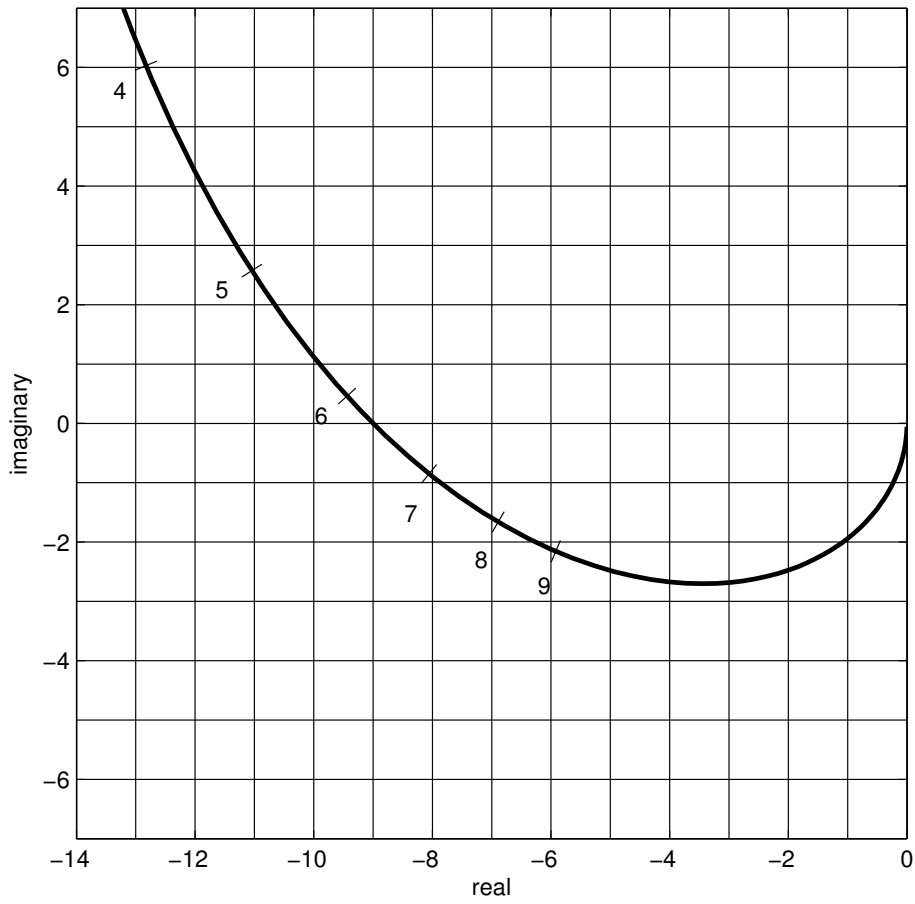
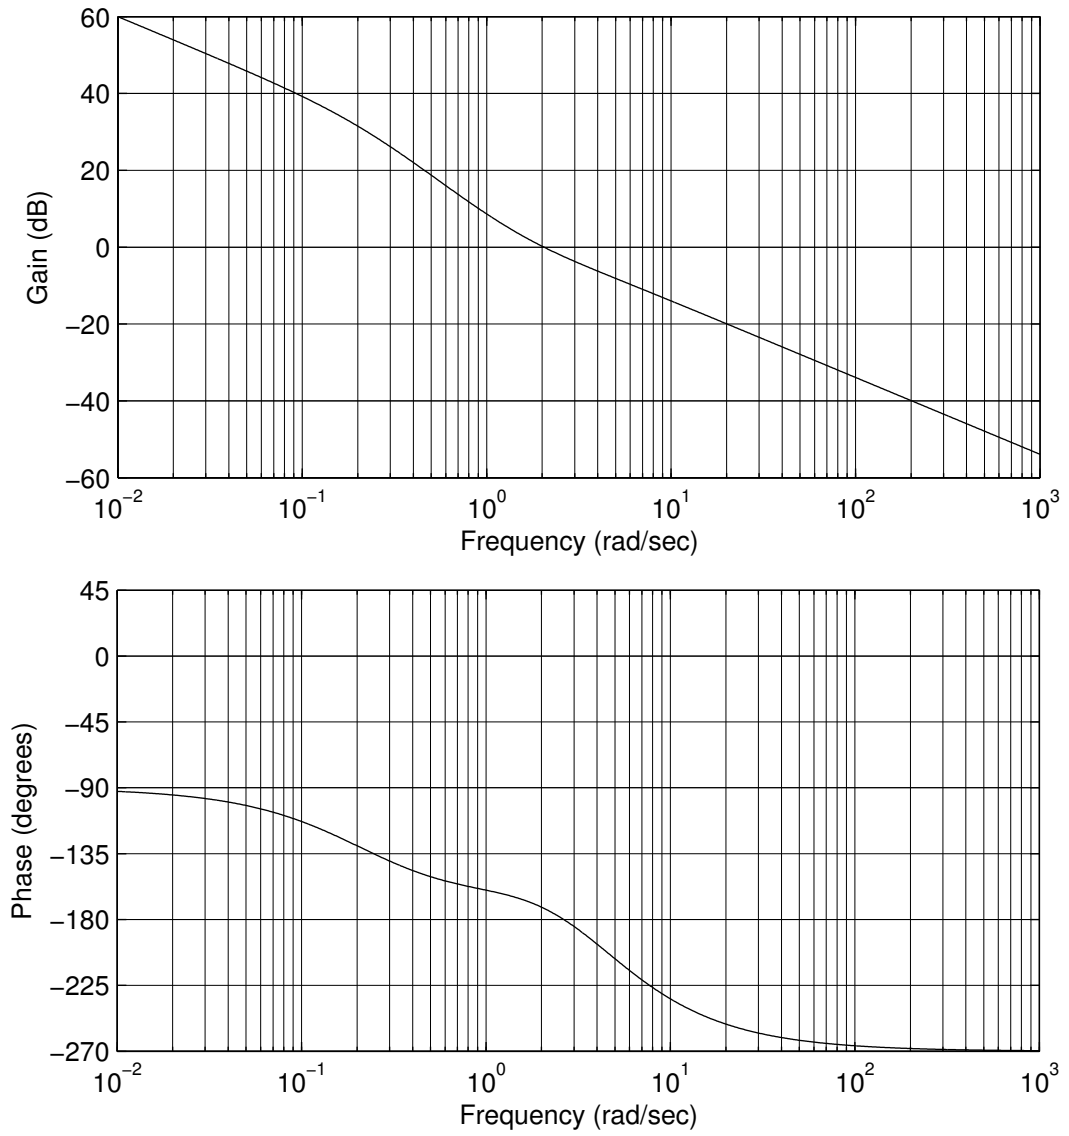

Fig. 1
Fig. 2
Supplementary pages: one extra copy of Fig. 1 (Question 1) and two extra copies of Fig. 2 (Question 2)
- (b) A transfer function $G(s)$ has a pole of multiplicity one at the origin and exactly one pole satisfying $\text{Re}(s) > 0$. Fig. 1 shows part of the frequency response $G(j\omega)$ for a range of positive frequencies with specific frequencies indicated: $\omega = 4, 5, \dots, 9 \text{ rad s}^{-1}$. Constant gain feedback k is applied to the system with the negative feedback convention.
- (ii) By use of a sketch on the extra copy of Fig. 1 estimate the position of any closed-loop poles close to the imaginary axis for $k = 1/8$ and $k = 1/10$. [25%]
An extra copy of Fig. 1 is provided on a separate sheet. This should be handed in with your answers.
2 Figure 2 is the Bode diagram of a system with transfer function $G(s)$ for which a compensator $K(s)$ is to be designed. It is known that the system has no poles satisfying $\text{Re}(s) > 0$.
- (a) (i) Sketch on a copy of Fig. 2 the expected phase of $G(j\omega)$ if $G(s)$ were stable and minimum phase. [15%]
Sketch the Bode diagram of $K(s)$ and $G(s)K(s)$ for your design on a copy of Fig. 2.
Two copies of Fig. 2 are provided on separate sheets. These should be handed in with your answers.
Extra copy of Fig. 1: Nyquist diagram for Question 1.
Extra copy of Fig. 2: Bode diagram for Question 2.